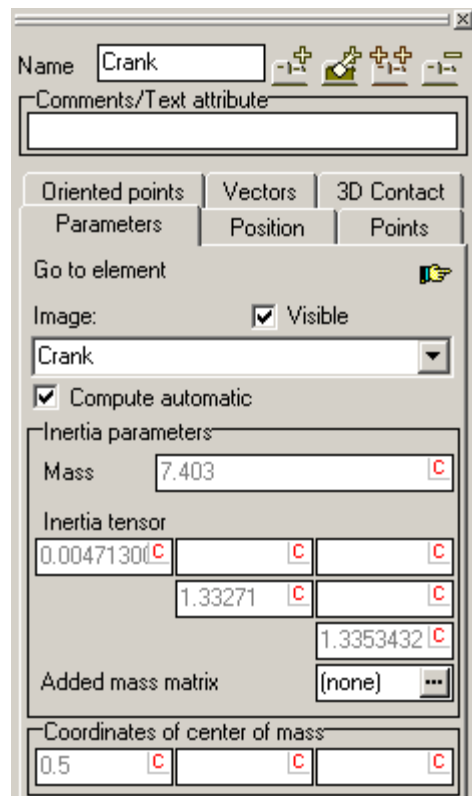

Figure 1.17.
4. Select the **Parameters** tab and turn on the **Compute automatic** flag for the both of bodies. Inertia property of the bodies are computed automatically, see Figure 1.17.